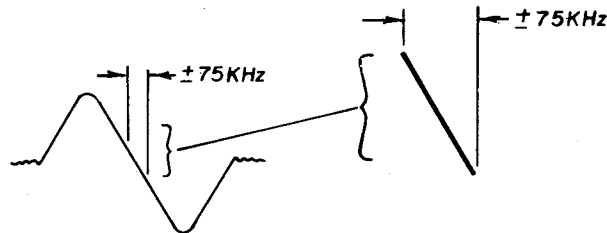

Figure 5
5. DETECTOR ALIGNMENT USING AN OSCILLOSCOPE: To align the FM detector, leave the FM generator connected as in Step 1, and move the oscilloscope lead to the REC output jack on the rear panel. The detector recovered audio can also be observed at Test Point 2 (TP-2). Reduce the modulation to  $\pm 75\text{KHz}$ . Adjust the bottom core of the detector transformer, T201, for a 0 VDC reading on a voltmeter connected across R214 or adjust for zero indication on the receiver zero center tuning meter. The top core of the transformer, T201, is adjusted for best linearity as observed on the oscilloscope (see Figure 5). Recheck the voltmeter 0 VDC reading and readjust the bottom core again, if necessary.